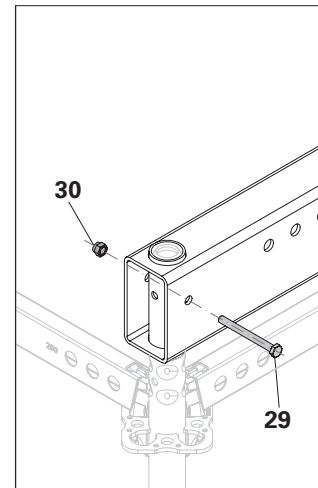

Fig. A8.01b
2. Fit the bolt (**29**) and nut (**30**) onto the ledger and vertical – per ledger – 2x. (Fig. A8.01b)